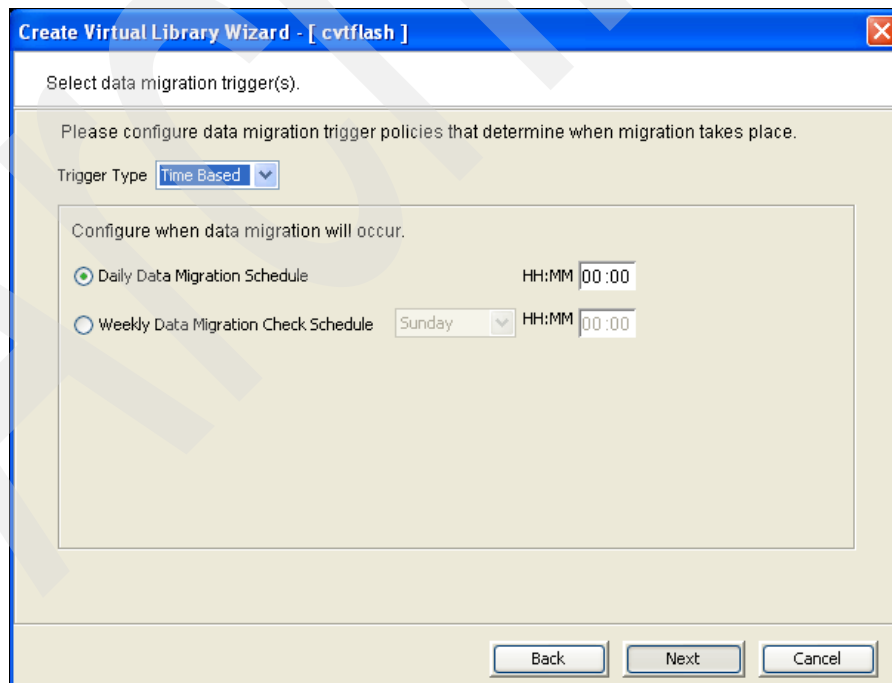

Figure 6-92 Cached virtual library creation: time based migration trigger
6. The Enhanced Tape Caching option provides flexibility that allows you to set up policies that automatically trigger data migration to physical tapes based on criteria, such as the number of days that data has been on disk or the amount of used disk space. With Enhanced Tape Caching, you cannot only determine which events will activate the action, but also when it will occur. For example, you can set the policy to migrate the data immediately or at a specific time or day as shown in Figure 6-92. Select **Policy Based**.